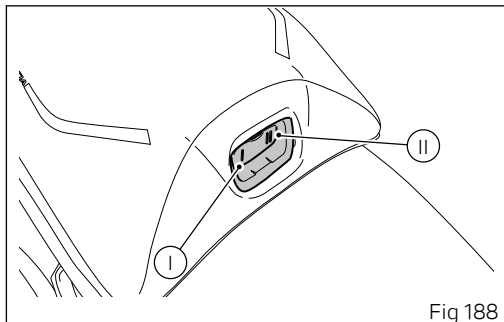

Fig 188
- position (I, Fig 188) to set the level to "Low";
- position (II, Fig 188) to set the level to "High".